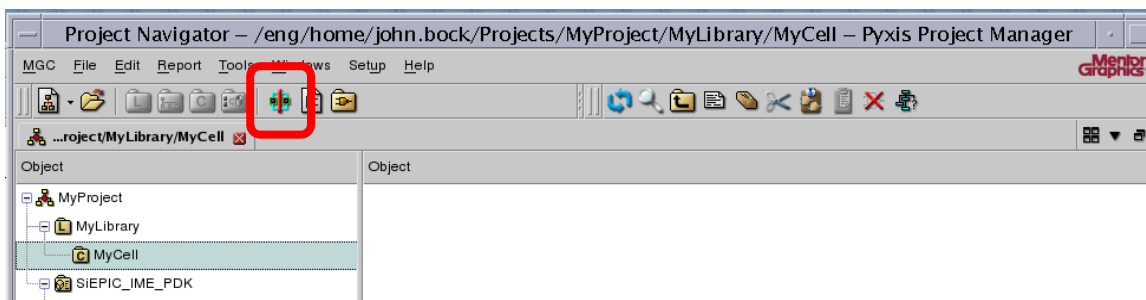

Figure 16: Creating a New Layout
6. In the left pane, select **MyCell** then, on the toolbar, click the icon **New Layout** (see Figure 16).
2. Create a new layout in this cell by the same name (see Figure 16 on page 15).